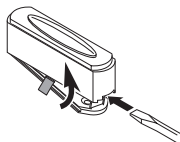

Figure 1
1. **Remove orange battery tab from push button.** Remove back of case by pushing in tab on bottom with a small screwdriver (see Figure 1). Remove orange battery tab.
- **Screw Mounting:** To mount with screws, remove back of case by pushing in tab on bottom with a small screwdriver (see Figure 1). *Note:* Remove material in screw holes (if needed) before mounting with screws. Attach back of case to door jamb or wall (see Figure 5). Snap front of push button on.